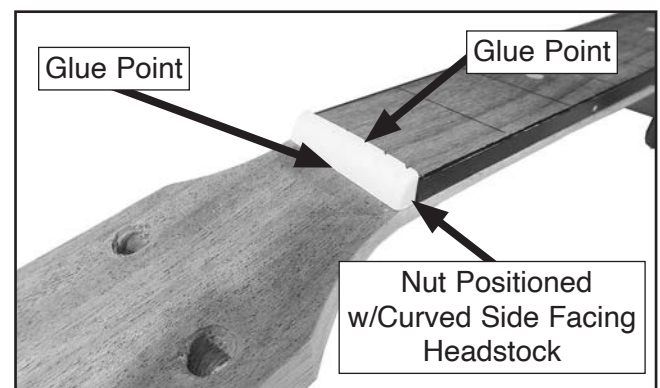

Figure 15. Fretboard installed.
2. Apply a spot of glue to top of fretboard and neck, then press nut in place and secure (see **Figure 15**).